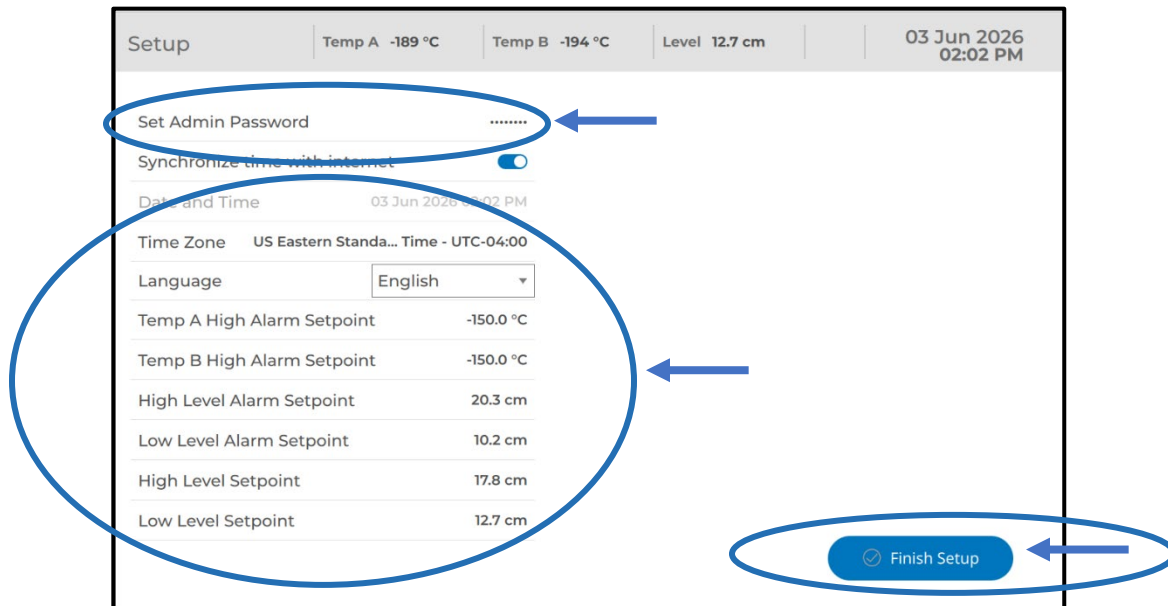

Figure 8. CryoVerse Connect Initial Setup Page
2. The Initial Setup page will appear as shown in Figure 8, Touch the “Set Admin Password”. A popup window will appear with a keyboard; enter a **\*\*New password**. The password requirement is any 8 or more characters, alpha or numeric, upper or lower case.